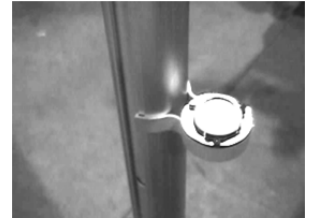
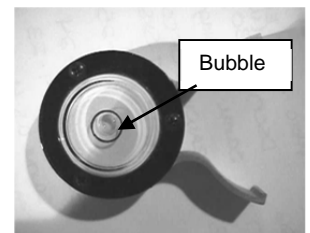

Figure 20
Figure 21
9. Before the Easytrack post tightens against the ceiling; check the clip-on level to make sure the bubble is in the centre of the circle. Tilt the post until the bubble reaches the centre of the circle (see Figure 20 and Figure 21).